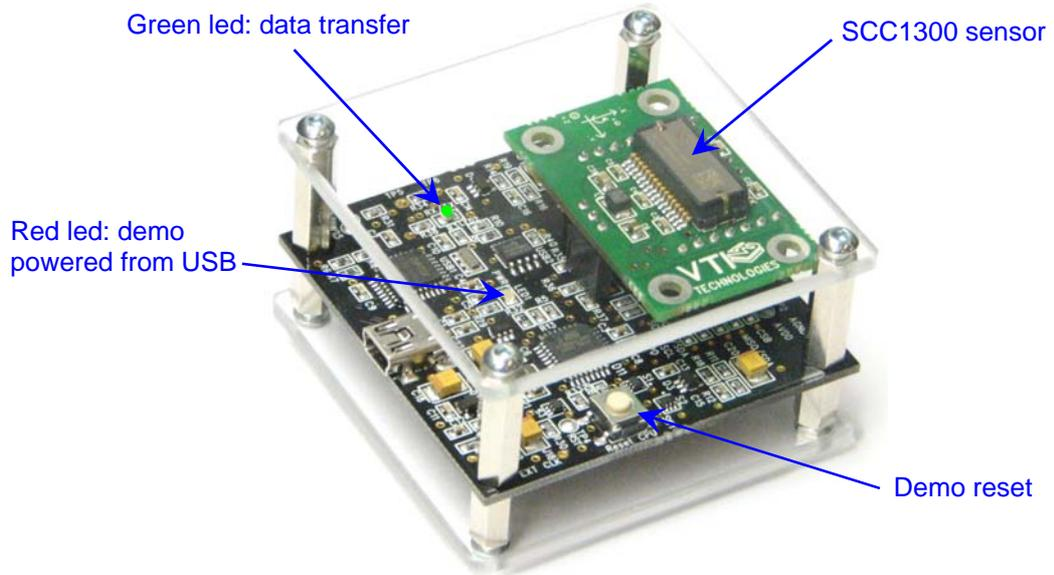
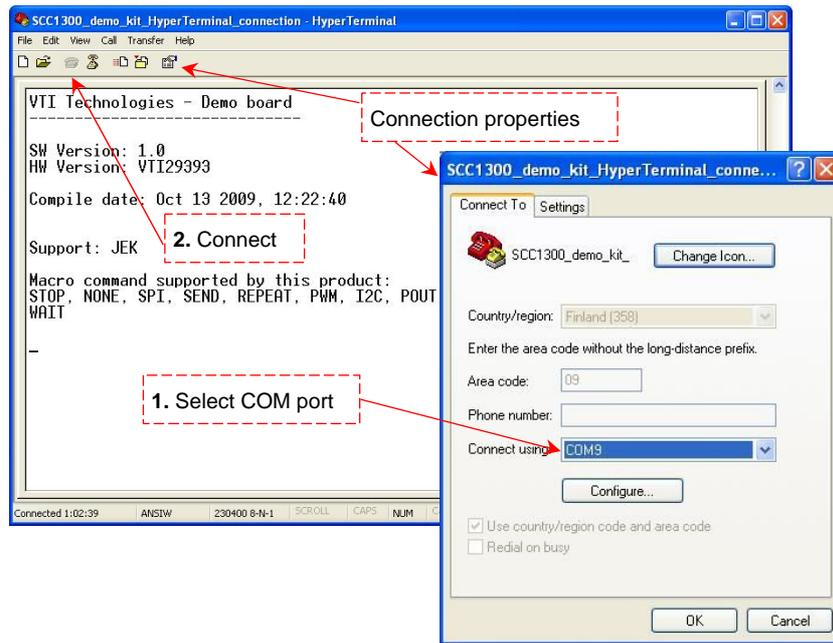

Figure 1. SCC1300 demo USB interface board and SCC1300 PWB.
Figure 9. Windows HyperTerminal with SCC1300 demo info text.
- SCC1300 sensor soldered on a chip carrier PWB (see Figure 1 on next page)
- USB interface card (see Figure 1 on next page)
The SCC1300 Demo Kit USB interface board (black PWB) and SCC1300 PWB (green PWB) are shown in Figure 1. The USB interface card converts the USB interface to SPI interface. SCC1300 sensor is soldered on PWB which is connected to interface board.
MCU can be reset by exiting from the GUI and then pressing the reset button (Figure 1) on USB interface board.
5. Press demo reset button (see Figure 1). SCC1300 Demo Kit sends an info text to HyperTerminal (see Figure 9). If the HyperTerminal software is unable to connect the SCC1300 Demo Kit or the info text does not appear,
until info text appears to HyperTerminal screen (see Figure 9).
1. Stop the GUI software, press the reset button program on demo USB interface board (see Figure 1), re-start the GUI again.
- see if the info text appears on the screen (see Figure 9)→ if the info text is transmitted, the communication between the demo kit and PC is ok